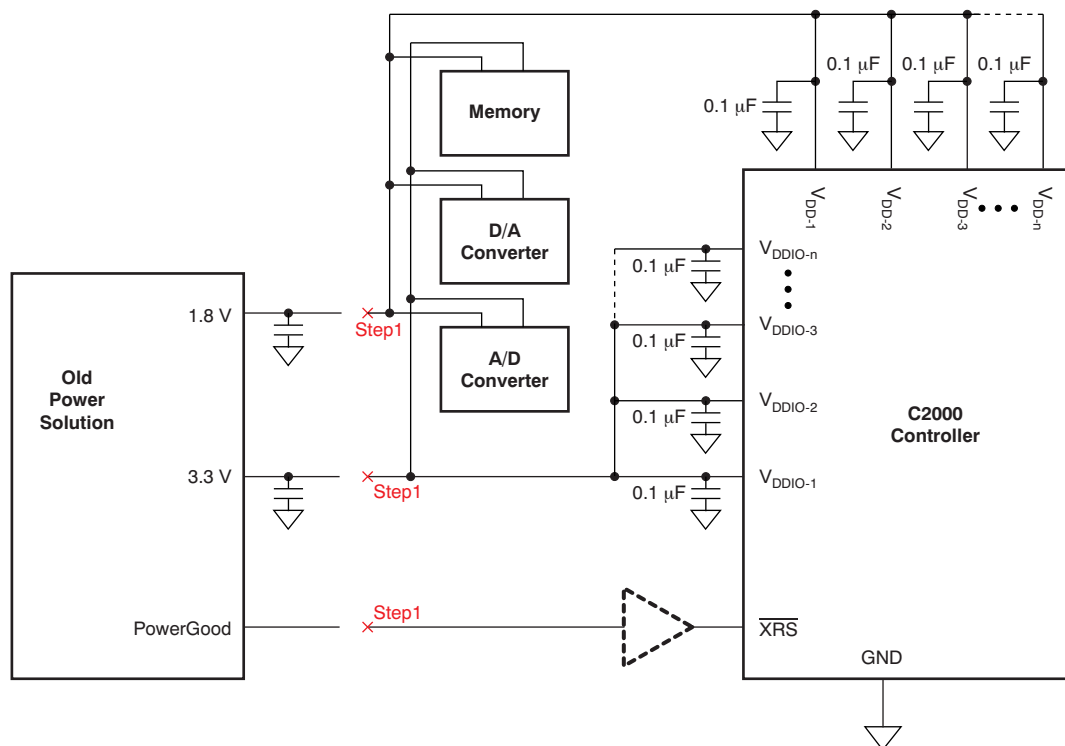

Figure 1. Removing the Old C2000 Power Solution
Figure 1 illustrates the removal of the existing C2000 power solution.
After finding the node in list item 1, disconnect it. In some cases, the $\overline{\text{XRS}}$ pin is driven by preceding logic buffers (such as the dashed-line buffer in Figure 1) and you may disconnect the old power solution at the input of such buffers.
After locating the nodes in list items 2 and 3, disconnect them as well. Usually, it is a good idea to locate the output capacitors for the 1.8-V and 3.3-V rails, then cut the PCB traces at the footprints of these output capacitors. As described in Figure 1, peripheral components that share the same power with V_{DD} and V_{DDIO} can be left as is. **However, note that the total consumption current should not exceed 500 mA for both the V_{DD} and V_{DDIO} rails.** (500 mA is the TPS75005 maximum-rated output current for both LDO1 and LDO2.)
Check that there is no diode connection from V_{DD} (anode) to V_{DDIO} (cathode) in the circuit block diagram of Figure 1. Use a multimeter in diode mode and verify that there is no diode.